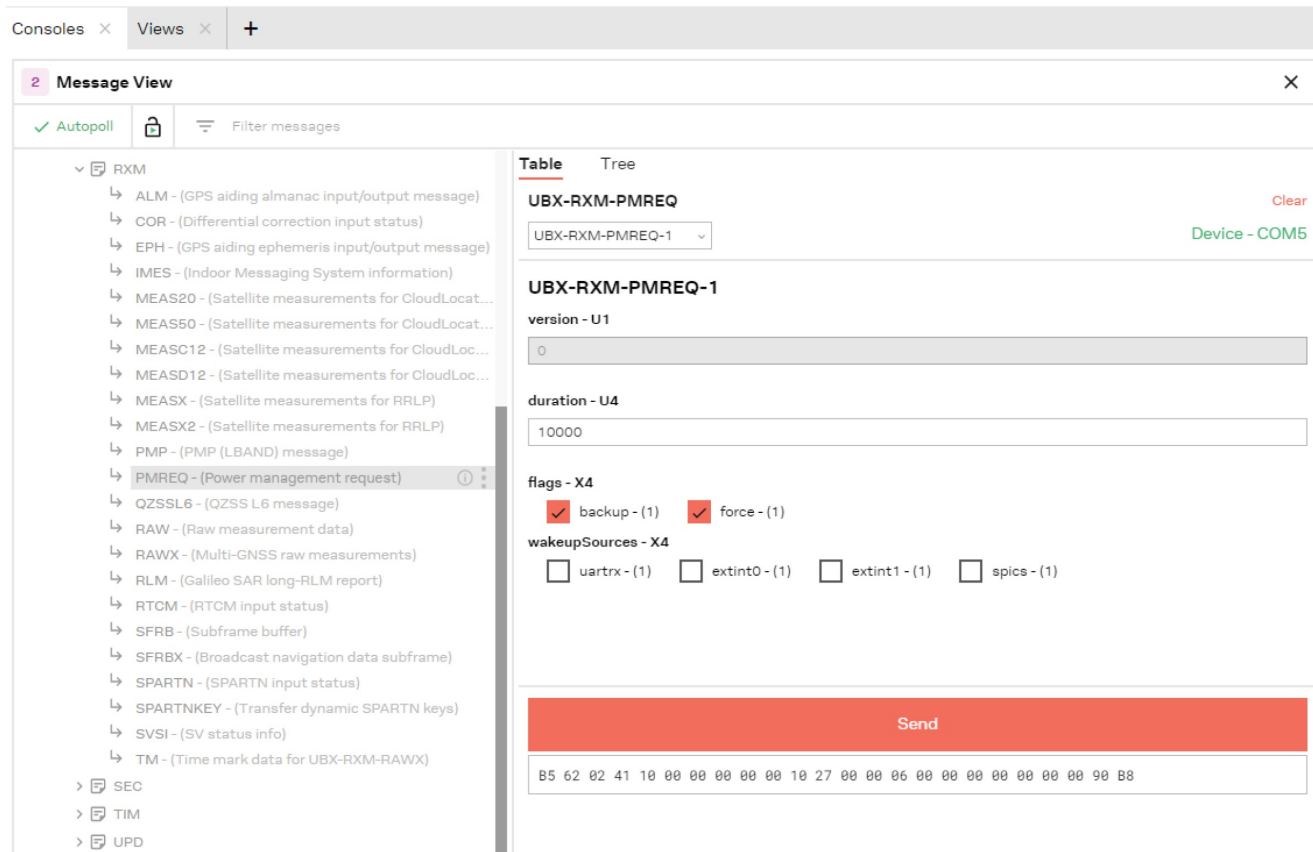

Figure 17: EVK-F101 receiver software standby mode configuration
- **Software standby mode:** To turn on the software standby mode, provide the time duration as milliseconds in the duration field and select the UBX-RXM-PMREQ message backup flag, as shown in Figure 17. The receiver wakes up after the provided duration or by selecting the supported wakeup sources in the message field. The available wakeup sources are EXTINT and UART RxD signals.